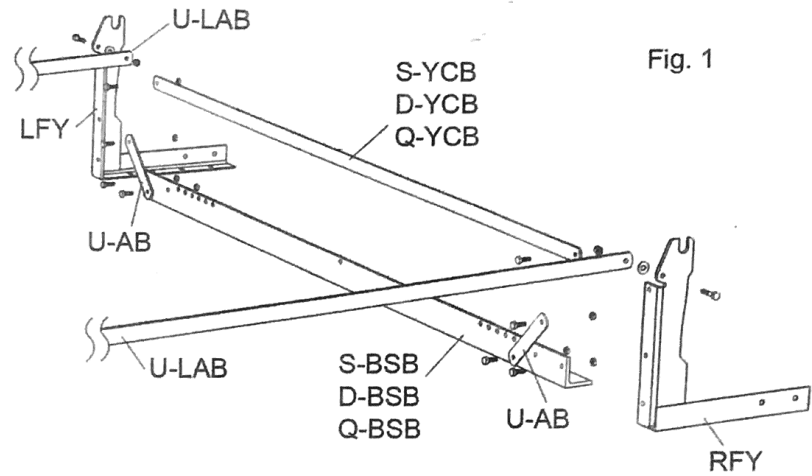

Fig. 1
4. Attach leg actuator bars (U-LAB) to floor yokes using 1" bolts (UMB75), nylon washers (UMWNY) and nylon insert locknuts (UMNNYL). Hand-tighten until later. See Figures 1 & 2.